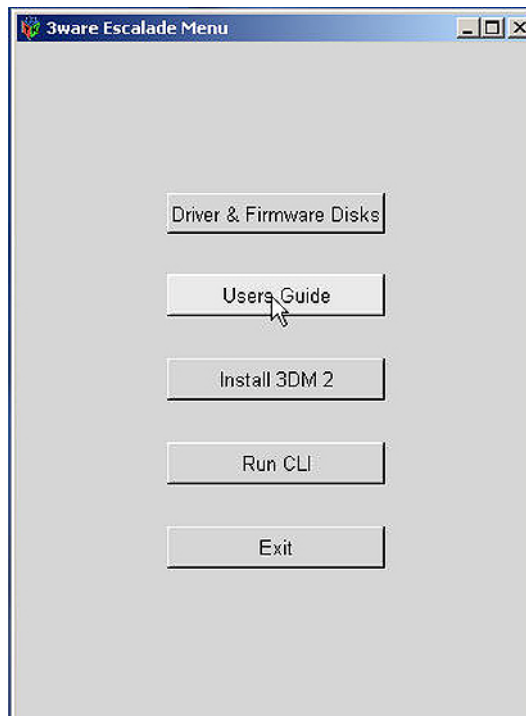

Figure 5-21
- 2) Insert the *3ware* CD. The auto-play function will bring up the **3ware Escalade Menu** as shown in Figure 5-21. Initially you should ignore this menu; don't dismiss it, but instead use the operating system's **Device Manager** utility to look for the *3ware* driver on the CD and install it.